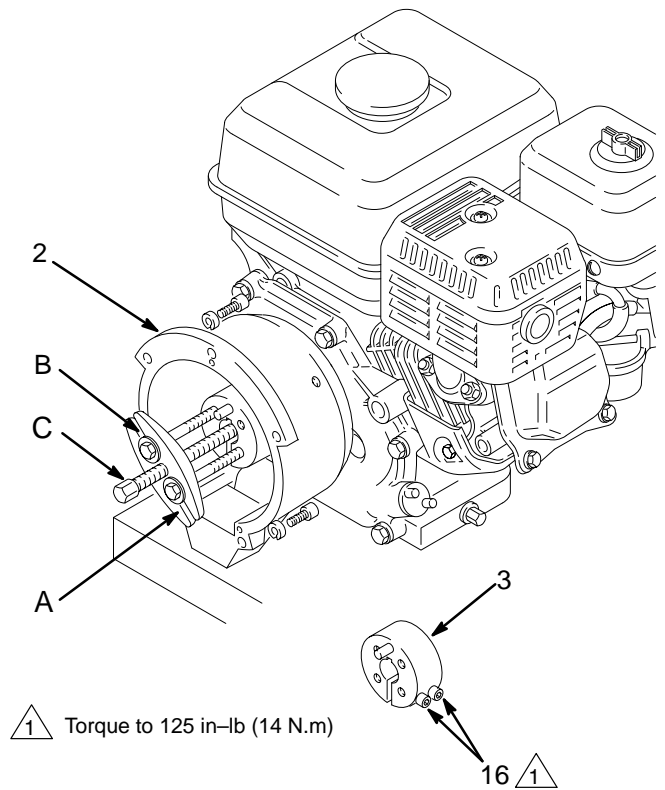

Fig. 27
**NOTE:** Refer to Fig. 27.
1. Loosen the two screws (16) on the clamp (3), working through the slot at the bottom of the clutch housing (2).
2. Install two screws (B) of the tool (A) in two of the threaded holes in the clamp. Tighten the screws (C) until the clamp comes off.